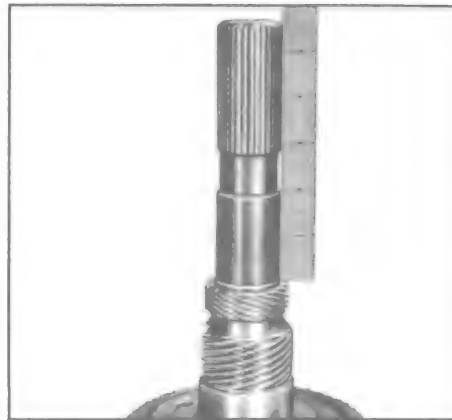

Figure 5-564
b. Install new speedo drive and drive to approximately 5.6" using tool, J-5154. See Figure 5-564.